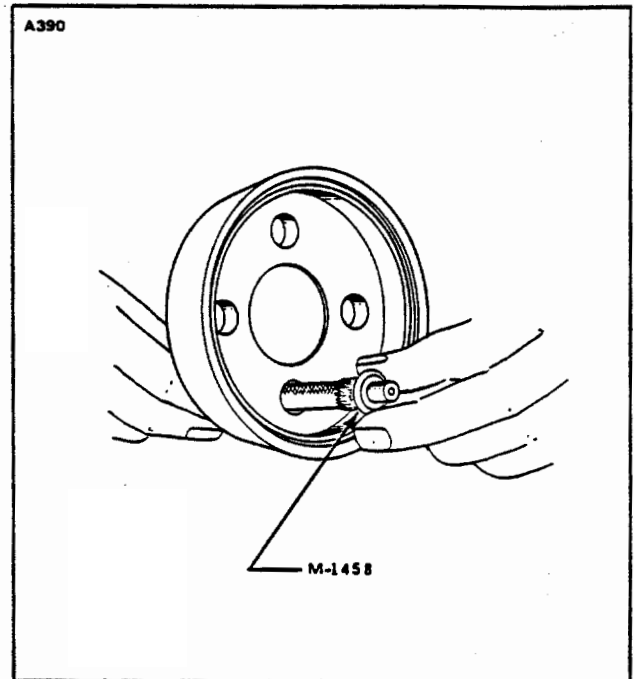

Figure 8-30. Securing wire in Housing
- l. Install an M-1458 Male Tapered Drive Ferrule over insulation and under shielding as in step "i" then drive the ferrule into the M-1569 or M-1893 Housing using the M-1744 Drive Tool, similar to step "j". Refer to Figure 8-30.